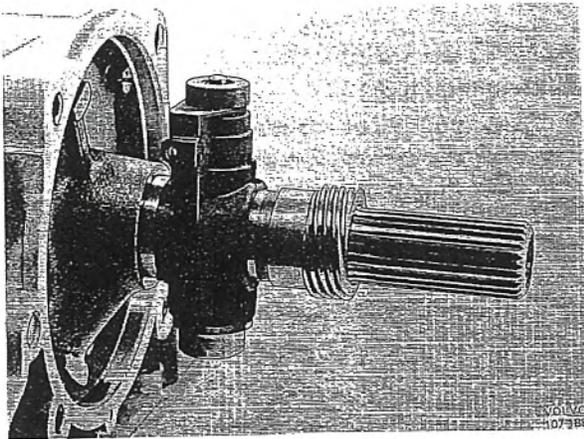

Fig. 4-108. Installing speedometer gear
21. Place the speedometer gear correctly on the driven shaft as shown in Fig. 4-108. Fit the extension housing with a new gasket and fit the drive flange with washer and nut.